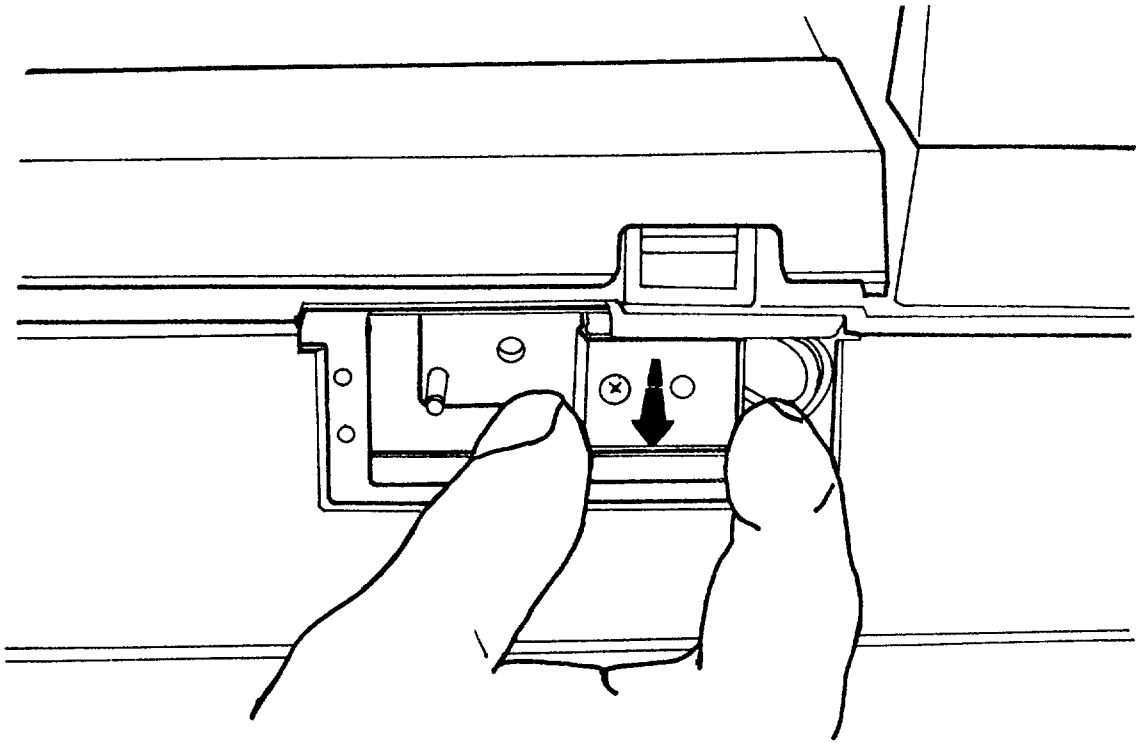

Figure 4.5 Replacement of the lamp unit:
12. Remove the metal plate as shown in Figure 4.5 and 4.6.